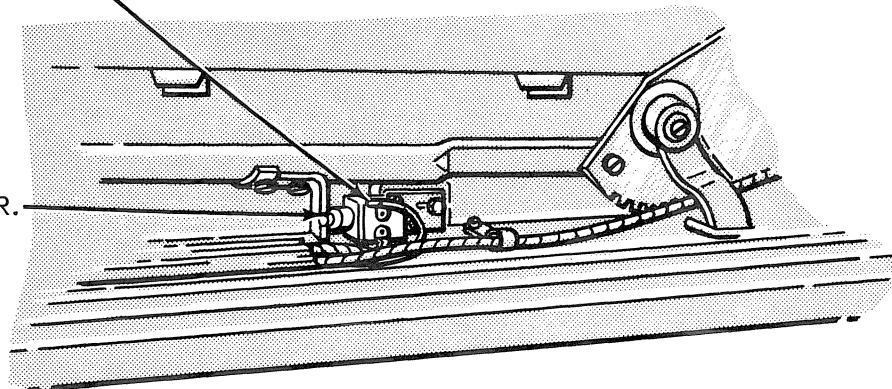

FIG. 2-26—Top Lock Limit Switch No. 2 Adjustment
9. Top Lock Limit Switch No. 2 Adjustment, Figure 2-26.